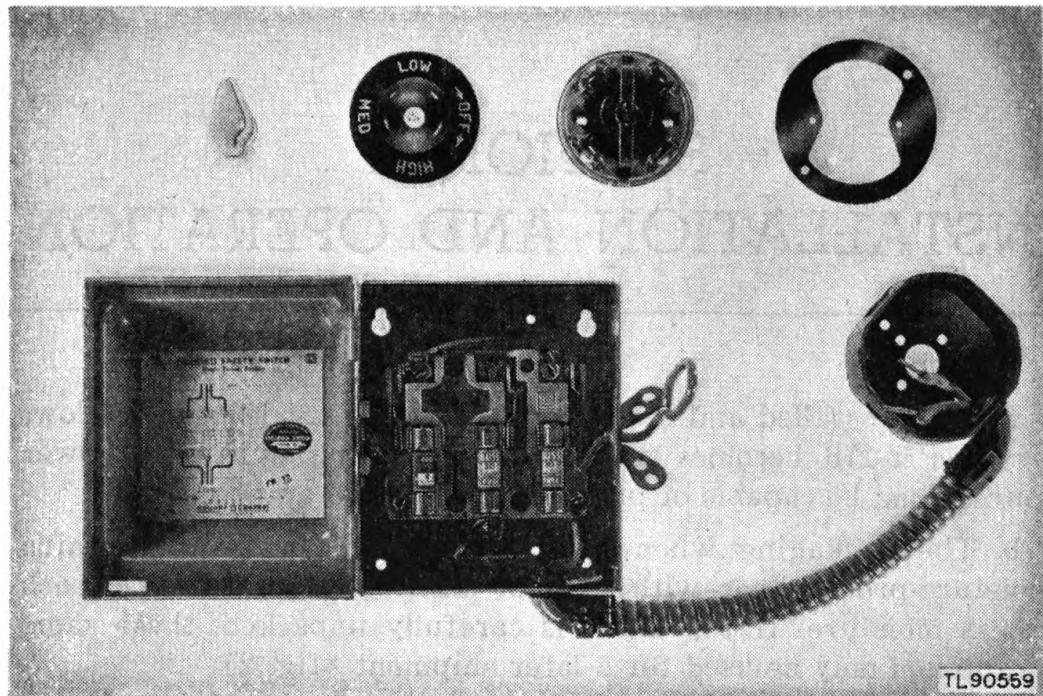
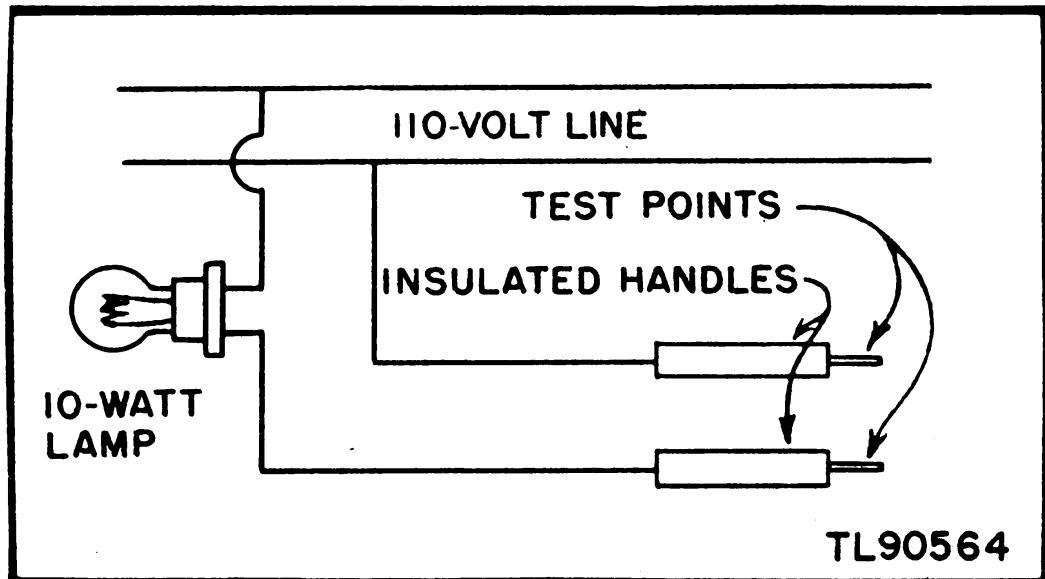

Figure 5. Switches, controls, and fuse box.
Figure 9. Test lamp set.
j. Switches. The power supply is controlled by two switches. The main switch is a 30-ampere, externally controlled safety switch. The box for this switch contains two 30-ampere cartridge fuses for the protection of the heating elements, and one 4-ampere cartridge fuse for the protection of the motor (fig. 5). This switch has two positions: ON and OFF. The second switch is either a black or white porcelain base rotary snap switch connected into the circuit supplying the heating elements. This switch has four positions: OFF, LOW, MED (medium), and HIGH, and controls the amount of heat applied to the prints through the drum surface.
- c. **Fuses.** To inspect for burned-out fuses (fig. 5), open the safety switch box. Examine the fuses and replace any that do not complete the circuit when they are tested on a test lamp set (fig. 9). The two right-hand fuses are of 30-ampere capacity and the left-hand fuse is of 4-ampere capacity.
(2) Remove the two screws which are countersunk and which hold the switch to the spider cover of the box. Remove the switch and replace it. In replacing it, be sure that all leads are connected properly.
c. Service Cord. Inspect the service cord for a broken lead by placing the points of the test lamp set (fig. 9) on the ends of the leads. If the test lamp lights, the leads are satisfactory. If the insulation is not cut or damaged, the cord is still fit for further service. Examine the plug on the end of the cord. Do not use it if it is bent or has loose connections.